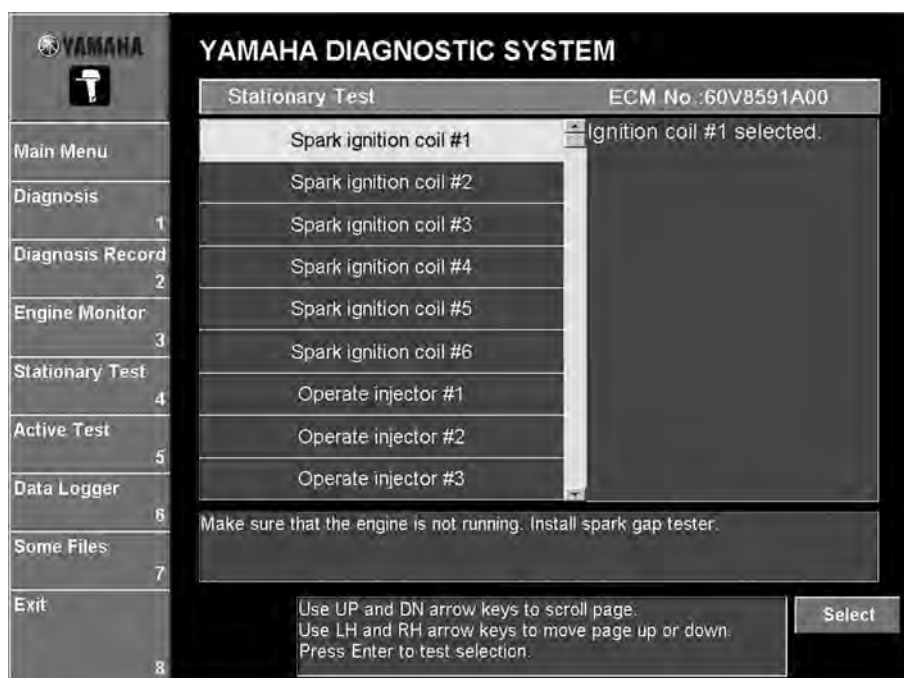

Fig. 64
1. Select the test that you wish to perform by either clicking it or pressing the up or down arrow keys on your keyboard. (Fig. 64)
4. Select the cylinder number where the spark gap tester is connected, and then click the **Select** button or press the Enter key on your keyboard. (Fig. 64)